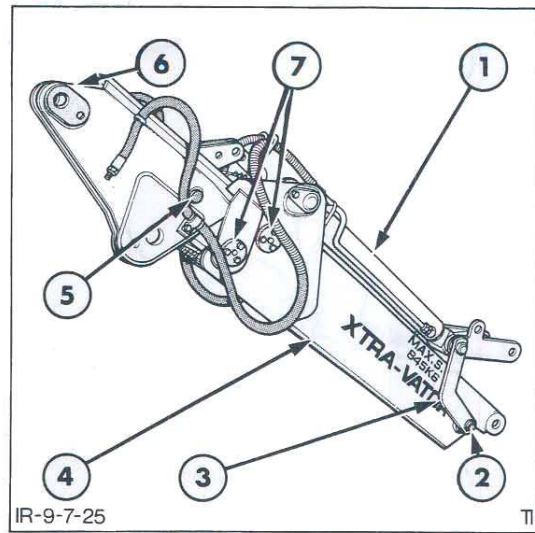

Figure 25
4. Remove the snap rings and washers at the idler link, Figure 25, and drive out the cylinder rod end attaching pin.